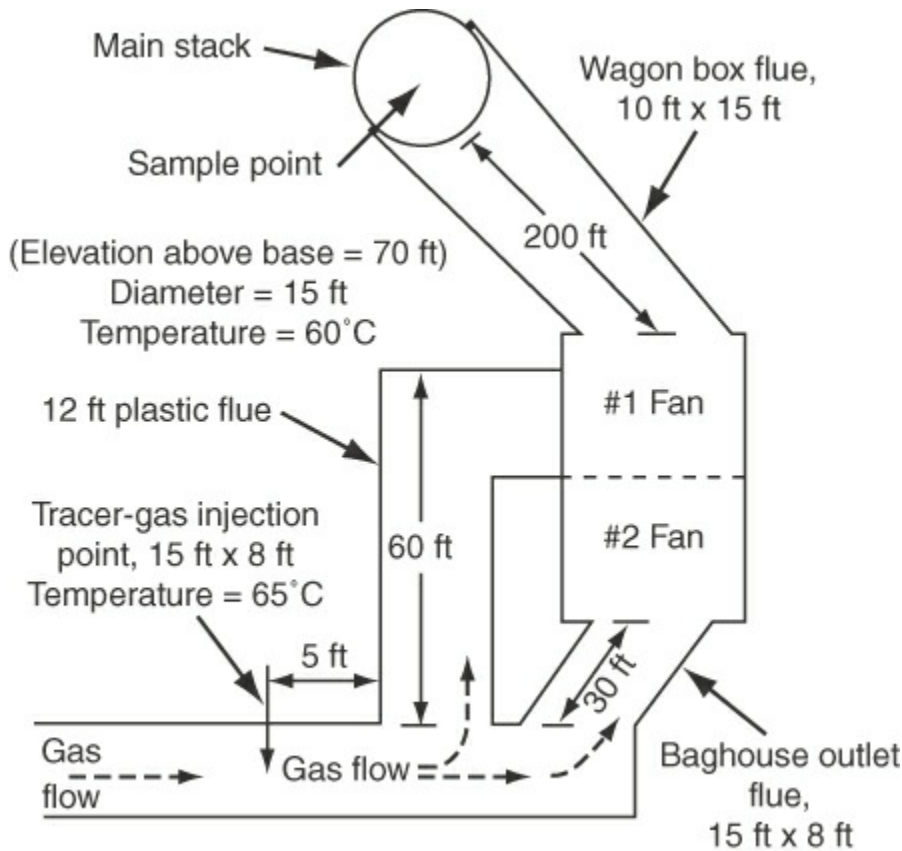

Figure P6.1.40
****6.1.40** Measurement of flue gas flow rates is difficult by traditional techniques for various reasons. Tracer gas flow measurements using sulfur hexafluoride (SF₆) have proved to be more accurate. Figure P6.1.40 shows the stack arrangement and the injection and sampling points for the SF₆. Here are the data for one experiment: